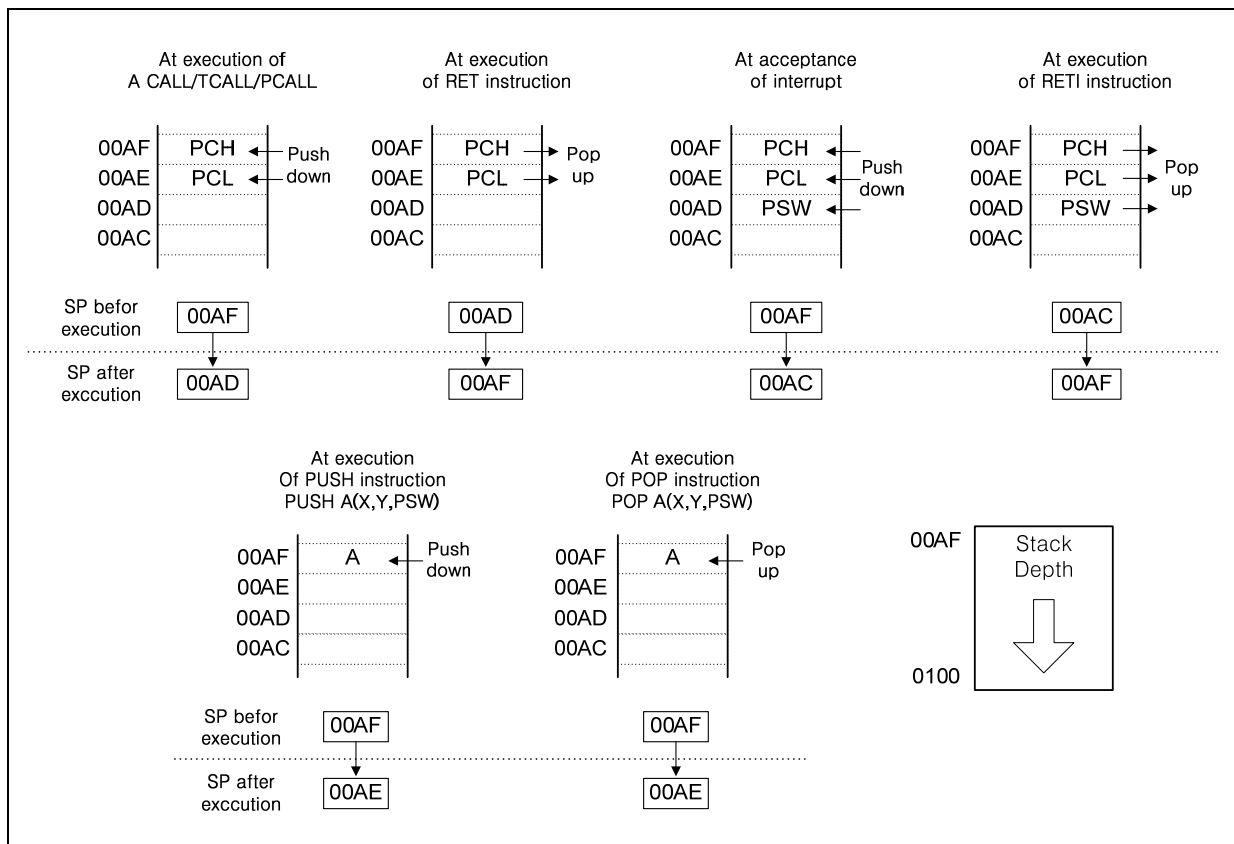

Figure 9-4 Stack Operation
The save/restore locations in the stack are determined by the stack pointer (SP). The SP is automatically decreased after the saving, and increased before the restoring. This means the value of the SP indicates the stack location number for the next save. Refer to Figure 9-4. .